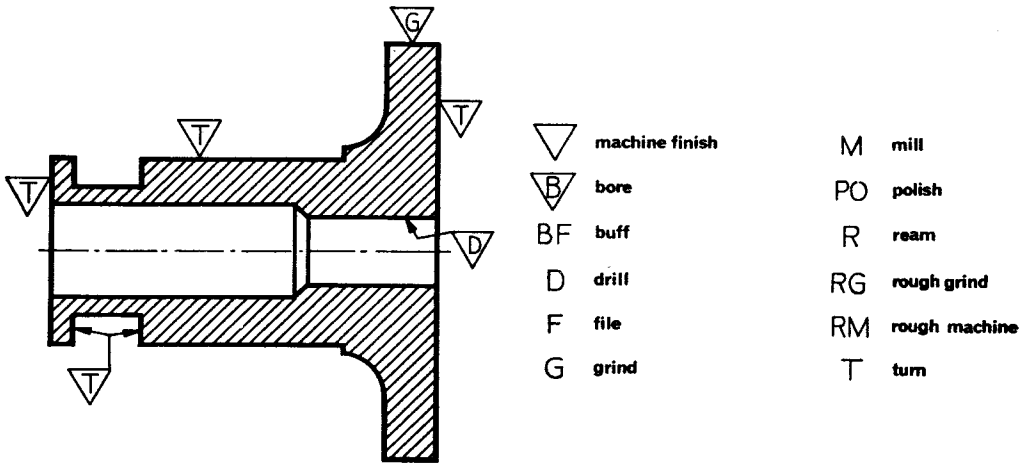

Fig. 14. Machining symbols
16. On production drawings surfaces which are to be machine finished are marked with a triangle, one point of which touches the surface concerned or is attached to a leader line. Letter symbols are used to specify the machining process used (Fig. 14).